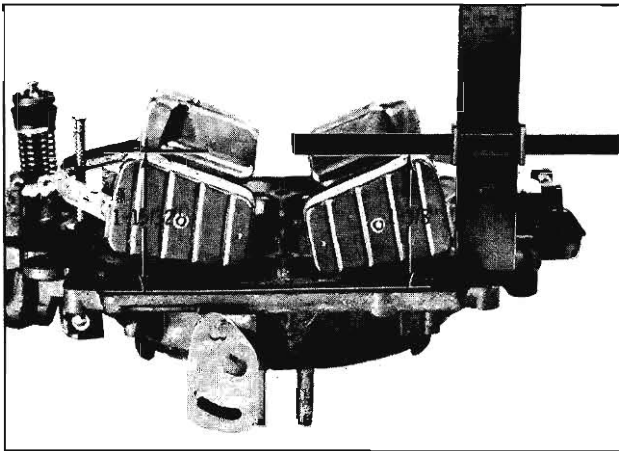

Fig. 4-165 Float Adjustment
3. Using the adjustable Gauge BT-6310, check the dimension from the gasket to the highest point of the float pontoons. This dimension should be 1-7/16" for the primary and 1-3/8" for the secondary. (Fig. 4-165)